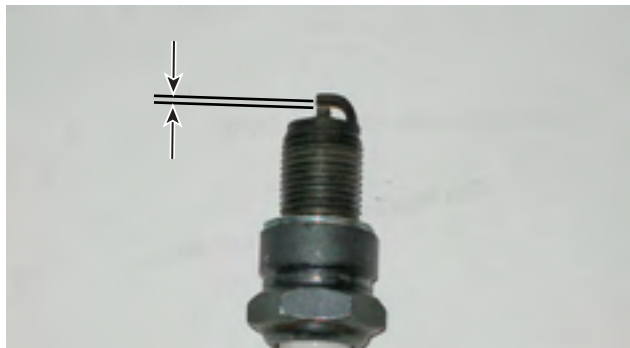

Figure 38 – Spark Plug Gap Requirements
- Spark plug gap (the acceptable limit of 0.024 – 0.032 in. [0.60 – 0.80 mm]) (see Figure 38).